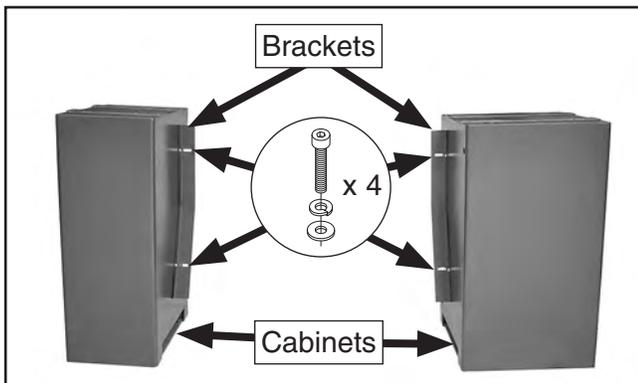

Figure 14. Panel brackets installed (rear view).
2. Secure panel brackets to cabinets with (4) M6-1 x 12 cap screws, 6mm lock washers, and 6mm flat washers (see **Figure 14**).